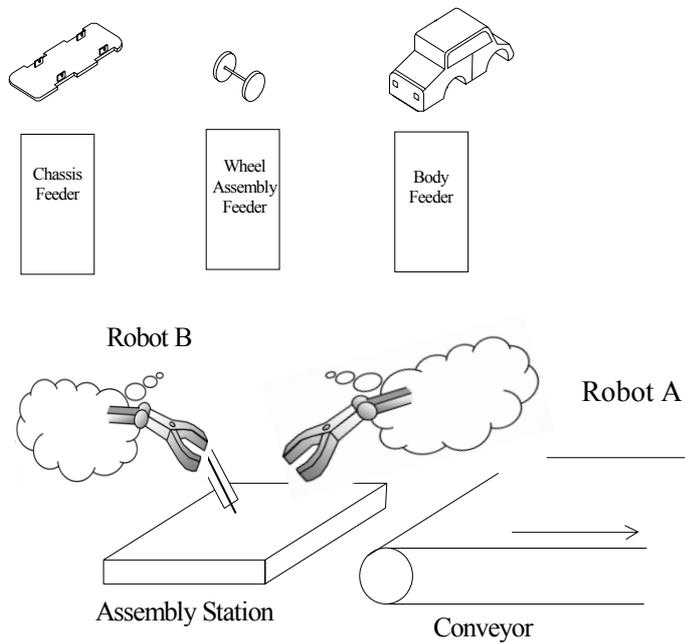

Figure Q13
13. A toy car assembly station is shown in Figure Q13. Revolute robots A and B are used in the assembly of the toy cars.